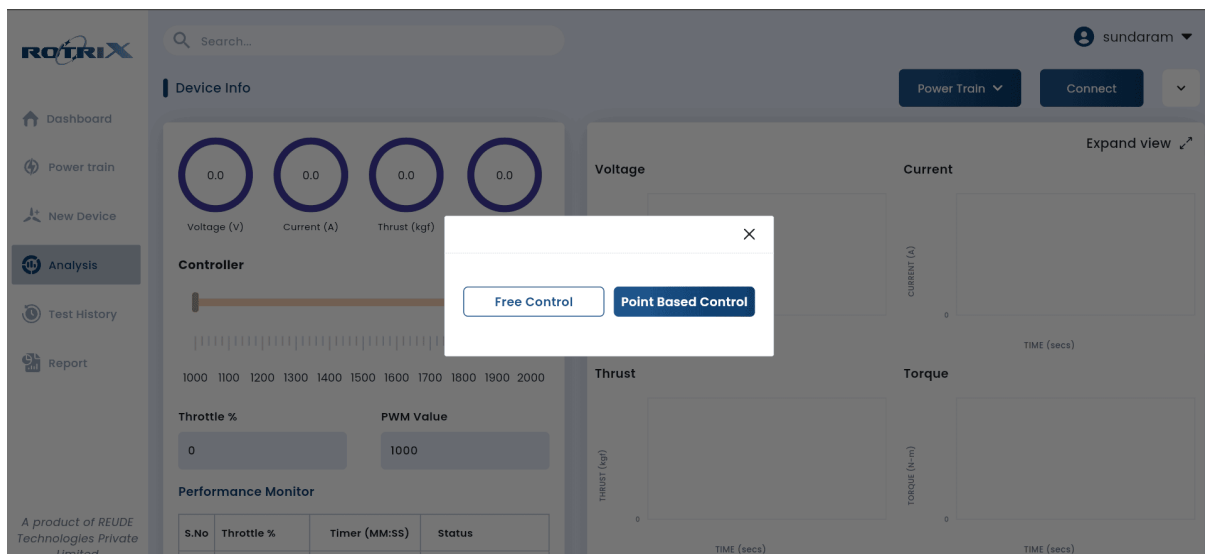

Figure 23: Test mode selection
- After selecting 'Point-Based Control', choose 'Custom Test' when prompted as in Figure 23. This mode allows you to create a custom throttle sequence with user-defined runtime.
- To use Free Control mode, select 'Free Control' option when prompted during test mode selection as in Figure 23. This mode enables real-time manual control of the motor throttle throughout a fixed-duration test session.